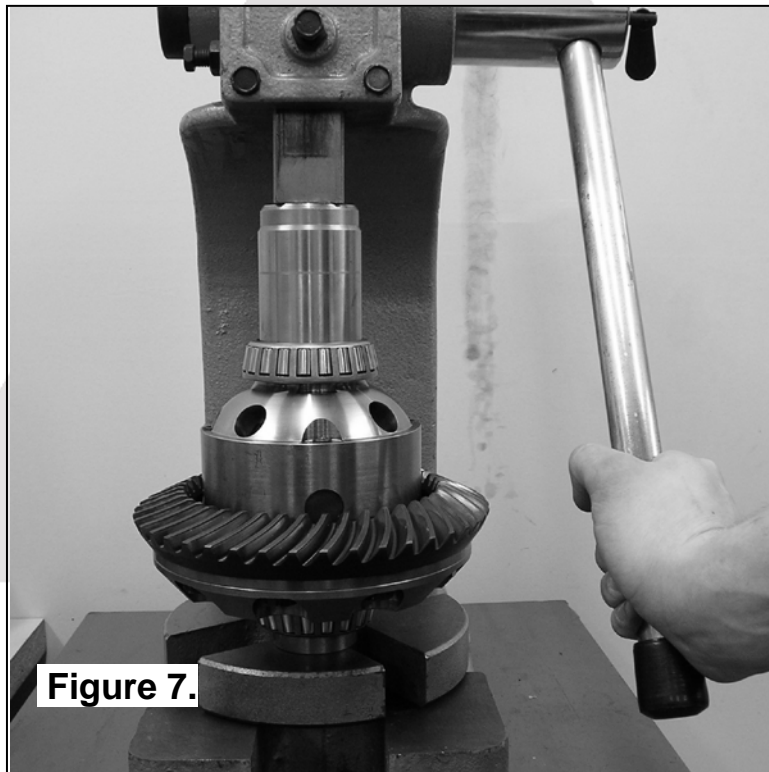

Figure 7.
- Press the remaining bearing cone onto the case side (right hand side) bearing journal until the bearing seats firmly against the bearing journal shoulder. (Fig. 7.).